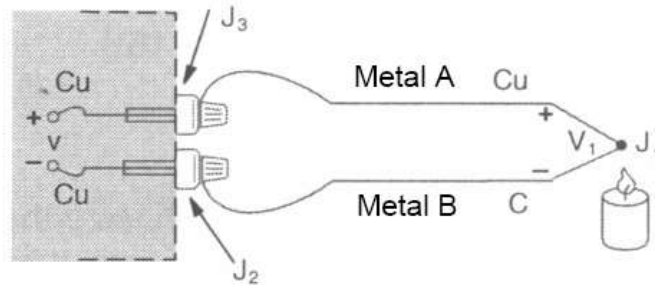

Figure 5.1: Thermocouple
-Type K (chromel{90 percent nickel and 10 percent chromium}–alumel)(Alumel consisting of 95% nickel, 2% manganese, 2% aluminium and 1% silicon) popular type since it has decent accuracy and a wide temperature range; some instability (drift) over time If the thermocouple is connecting direct to a voltmeter as shown in figure 5.1, problems will occur: